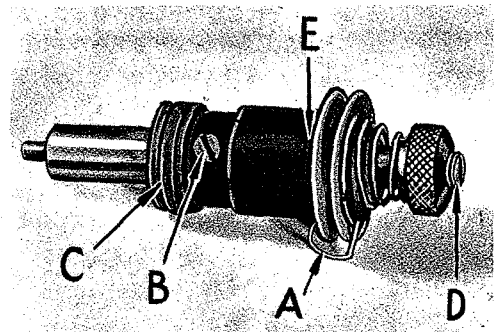
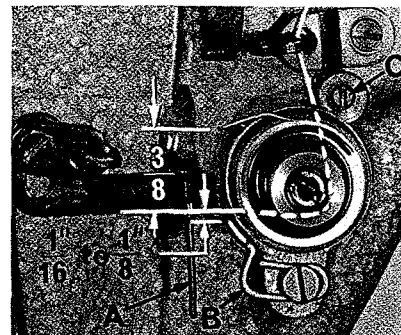
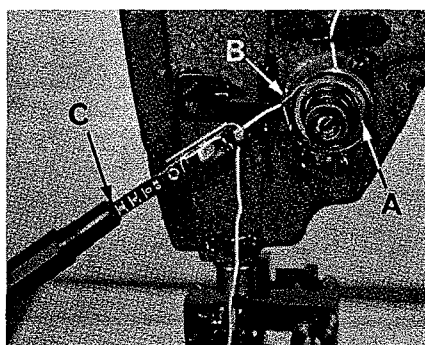

Fig. 18
Fig. 19
Fig. 20
Test check spring tension (A, Fig. 18). There should be enough tension to assure a good returning snap when the spring is depressed and released. Should it require adjusting, loosen set screw in head located under arm and to the right of tension assembly and remove tension assembly. Partially loosen tension post set screw (B) in tension post socket (C). Turn tension post (D) counterclockwise until check spring moves away from upper stop (E) and has no tension on it. Turn tension post (D) in a clockwise direction until spring again touches upper stop (E). Proceed further in same direction until desired tension is obtained. When correctly set tension post set screw (B) should be drawn up snugly, yet not forcefully. Further adjustment of check spring tension can be made by inserting a screwdriver into slotted end of tension post (D) and turning in required direction.
Replace tension assembly with check spring about $3/8$ inch above thread take-up bracket (A, Fig. 19). Replace tension post assembly while presser foot is resting on throat plate.
The in and out position of the tension assembly is correct when the tension discs are in line with the check spring eyelet (B, Fig. 19). Set the stop screw (C, Fig. 19) so that when the flange of the tension assembly rests against it, this position is maintained. Tighten the tension assembly set screw.
Check the adjustment of tension assembly (A, Fig. 20). Check spring tension. There should be enough tension to insure a good returning snap when spring (B, Fig. 20) is depressed and released. The check spring tension is adjusted from about 1 to $1\ 1/4$ ounces when measured with a postal scale, No. 21227 CW, (C, Fig. 20). This is measured when the check spring is $1/32$ to $1/16$ inch from the stop. The tension post set screw should be drawn up snugly but not forcefully tightened (B, Fig. 18). The tension release pin should move freely in the tension post (D, Fig. 18). The check spring eyelet (B, Fig. 19), located just below the tension discs, should be set for correct height as follows:
With a thread running from the tension post to the thread take-up bracket (A, Fig. 19) in a straight line, the check spring eyelet should be set $1/16$ to $1/8$ inch below the thread line (Fig. 19). Be sure the eyelet is set close to the tension discs so that the check spring will pass freely over it without obstruction. After making this setting, proceed to thread machine as per threading diagram (Fig. 3).